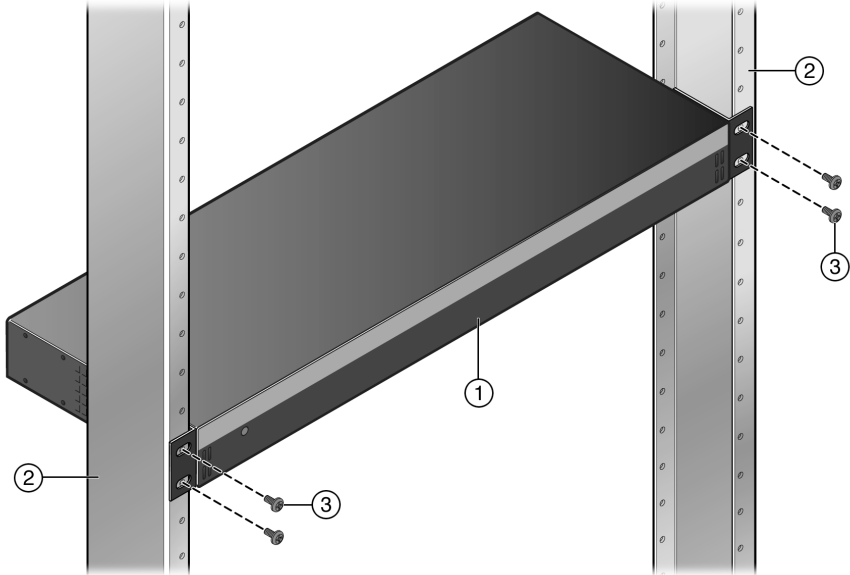

Figure 186: Fastening the RPS-500p to the Rack
- 2 With the rack-mounting brackets attached, position the RPS-500p between the vertical rack rails of the 19-inch rack as shown in Figure 186.